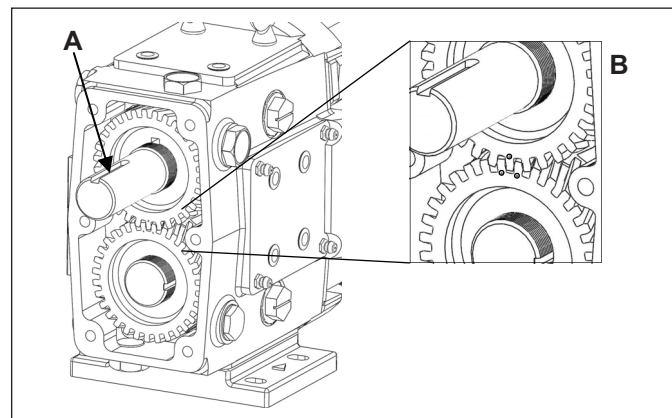

Figure 44. Installing Gears with Correct Timing
8. Once the gear keys are installed, orientate the shafts so that the keyways on the drive shaft are pointing in the 12 o'clock direction (Figure 44, A). Slide the right-handed gear with the single punch mark onto the drive shaft. Slide the second gear with two punch marks on the short shaft. To time the gears, align so that the single punch mark falls between the two punch marks on the opposite gear (Figure 44, B).